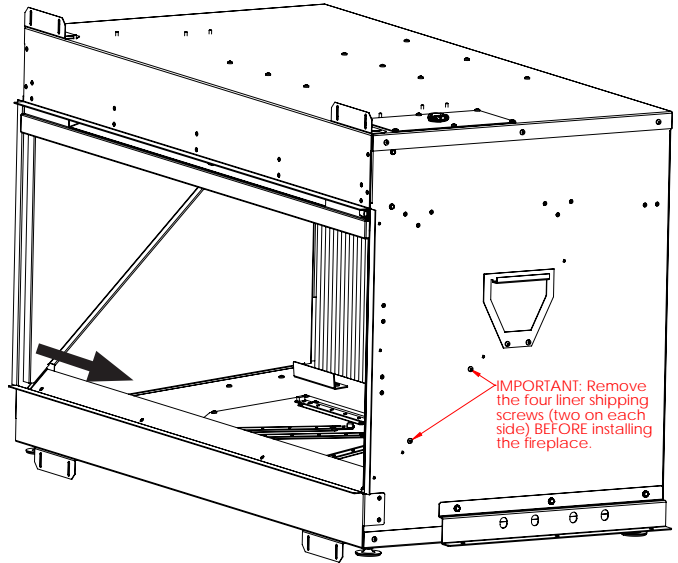

Figure 14: Front Wedge Liner Removal
1. Remove the front side wedge liners if necessary. To remove liner, pull inwards at the bottom corner (as shown in Figure 14) until it releases from the magnet and comes free.